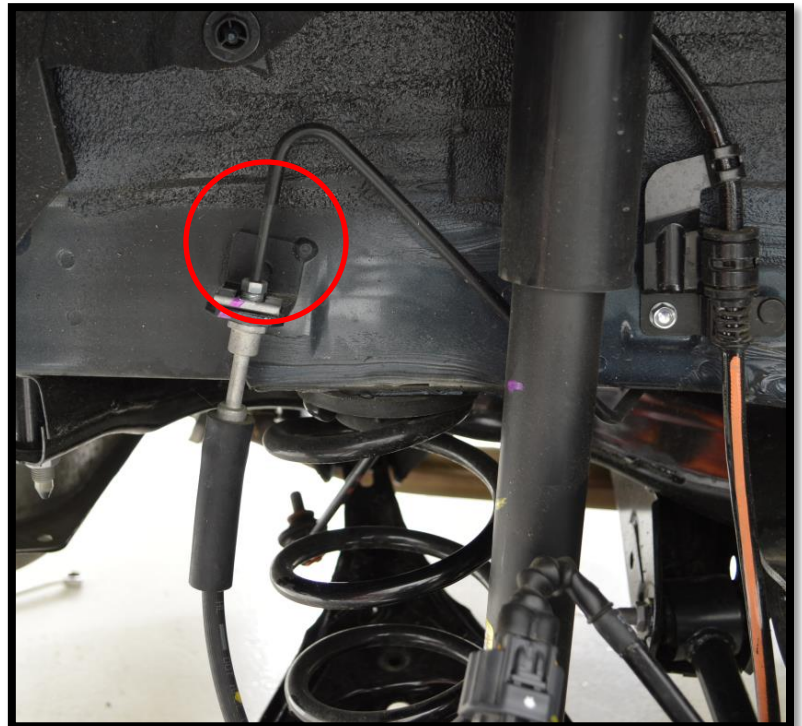

Figure 4c
- i) Remove the brake line clip shown with a red circle in Figure 4c to prevent tension on brake line while lowering suspension.